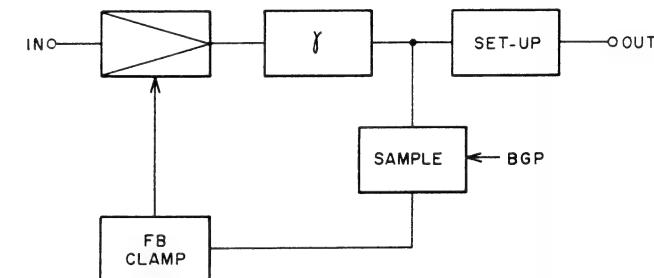

Fig. 25
Fig. 25 is the block diagram of the process circuit. The signal supplied to pin ③ is first passed through the base grandamp (TR1) and then subjected to gamma correction with voltages made available by R46, R47 and R48 being applied to the bases of TR2, TR3 and TR4, respectively. (See Fig. 25) Subsequently, the signal taken out via EF (TR5) has its black mask portion sampled and held by TR6 (or the blanking portion sampled and held by CP-1 in the case of the red or blue channel), and the output is applied to IC12 (feedback clamp circuit) to keep constant the DC level of signals delivered from the base grandamp (TR1). The feature of this circuit is that the γ point can be shifted by changing the DC level.